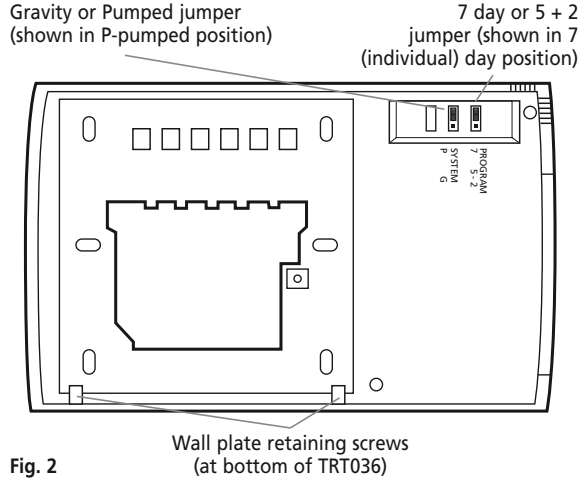

Fig. 2
Decide whether weekday/weekend (5-2) or individual (7) day programming is required, and move the jumper on the rear of the product (see Fig. 2). Also move the system jumper to either G (gravity) or P (pumped) as appropriate for the system.